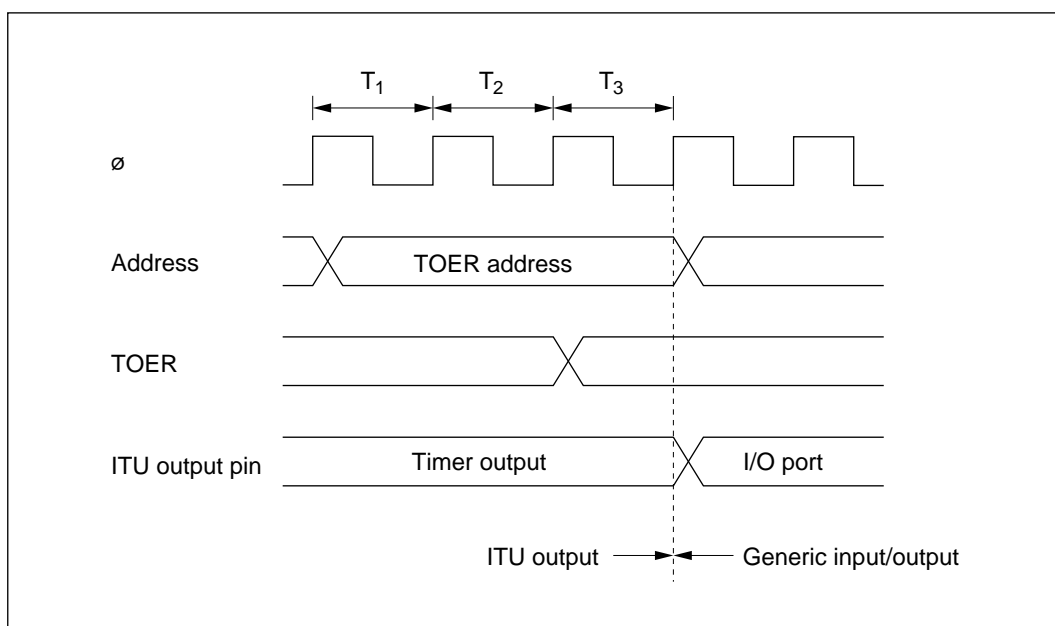

Figure 8-40 Timing of Disabling of ITU Output by Writing to TOER (Example)
Timing of Enabling and Disabling of ITU Output by TOER: In this example an ITU output is disabled by clearing a master enable bit to 0 in TOER. An arbitrary value can be output by appropriate settings of the data register (DR) and data direction register (DDR) of the corresponding input/output port. Figure 8-40 illustrates the timing of the enabling and disabling of ITU output by TOER.